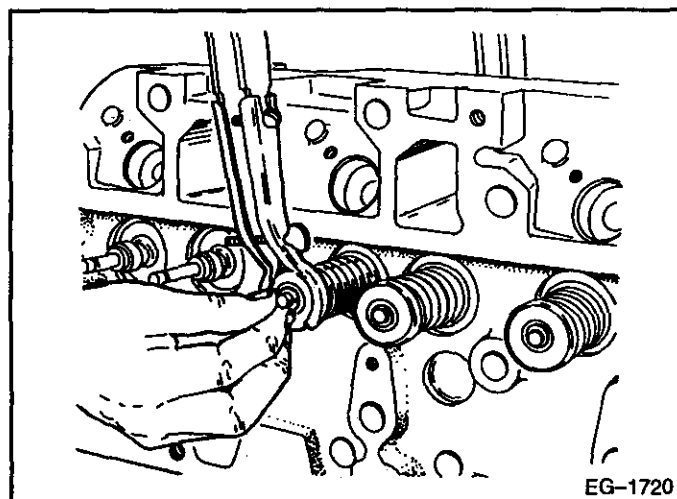

FIGURE 7-27
3. Remove the valve spring locks (keepers). Refer to **FIGURE 7-27**.